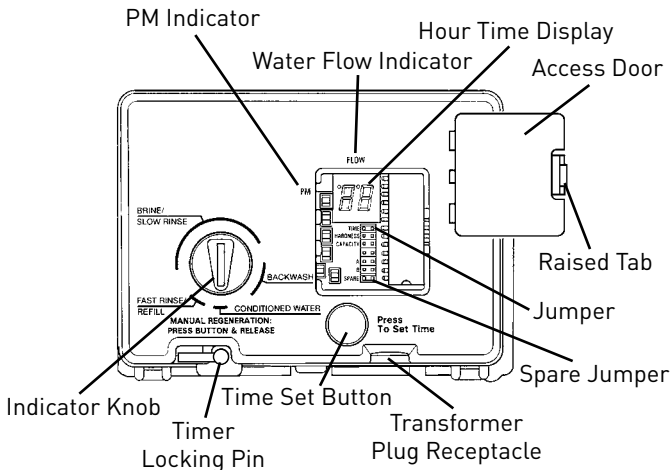
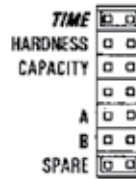

Figure 11
Figure 12
NOTE: The following steps will require turning the indicator knob (Figure 11) to various positions. Insert a wide-blade screwdriver into arrow slot in indicator knob and press in firmly. With knob held in, rotate COUNTERCLOCKWISE only until arrow or knob points to desired position. Rotation is made much easier if you grasp the camshaft with your free hand and turn it at the same time. Then permit knob to spring back out.
2. Insert screwdriver into slot in indicator knob (Figure 11). Press in and rotate knob COUNTERCLOCKWISE until arrow points directly to the word BACKWASH.
- Set days of regeneration on skipper wheel (Figure 11).
NOTE: The Timer Locking Pin should always be horizontal (Figure 11) during operation.
Open the access door by pushing the raised tab on the door toward the left while pulling the tab out (Figure 12).
NOTE: The Timer Locking Pin should always be horizontal (Figure 12) during operation.
When abnormally high water usage exhausts your water conditioner's capacity ahead of schedule, an extra regeneration can be achieved. Depress the indicator knob on the 440i (Figure 11) with a wide-blade screwdriver and turn COUNTERCLOCKWISE to START to initiate a regeneration. For the 460i, simply depress the indicator knob (Figure 12). It will take a few minutes for regeneration to start. A normal regeneration will take approximately two hours.